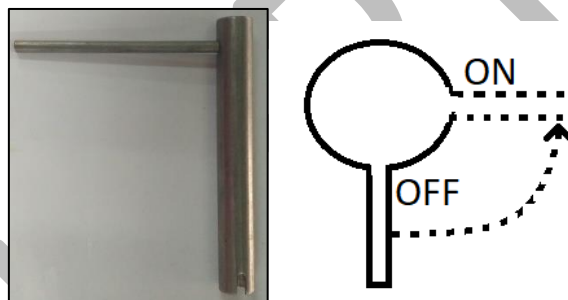

Fig 16: Opening Ink Valve Using the Key
Step 1: Click on the **Import** button to import a file (Refer to Fig 16). The **Open** dialog box appears on the screen, as shown below: